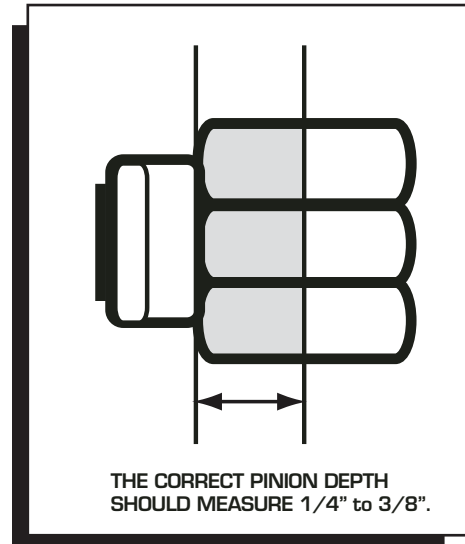

Figure 2 Pinion Gear Pattern.
3. After confirming clearances and position of the solenoid, it is time to check the pinion engagement to the ring gear. This is done by gently prying out the pinion gear to the ring gear. The pinion should engage by 1/4" minimum and 3/8" max on to the ring gear (Figure 2).